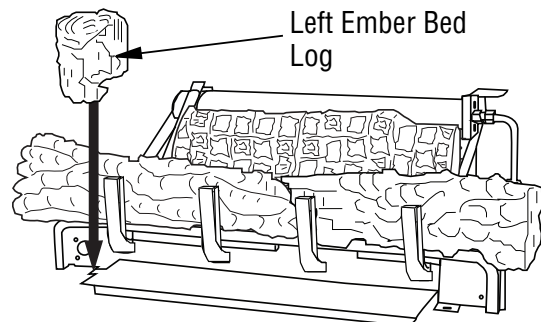

Figure 32 - Installing Left Ember Bed Log
4. Place left ember bed log as shown in **Figure 32**. The log has groove on one side that sets on the ember bed pan. The back side of this log needs to rest against the front of the base assembly. Make sure the flame from the ember pan does not touch the ember bed log.